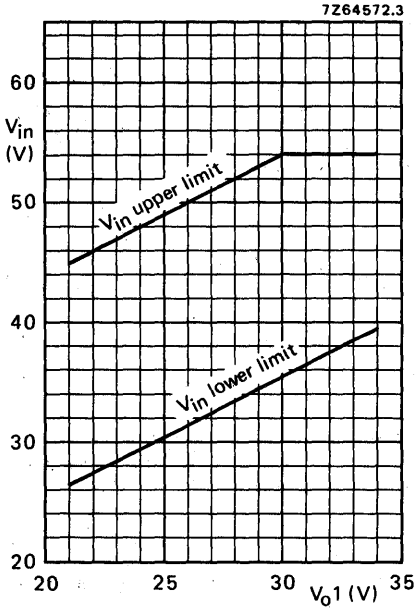

Fig. 4 Range of values for  $V_{O1}$ .
1. The  $V_{in}$  range depends on the value of  $V_{O1}$  (see Fig. 4).